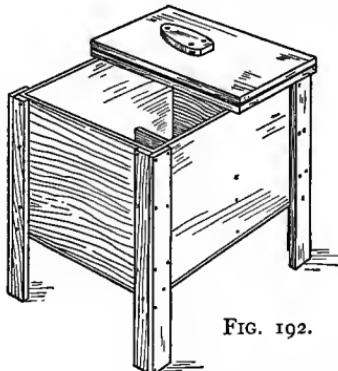

FIG. 192.
**A Blacking-Case** (Fig. 192). Cut two strips for each leg, making one 3 inches wide and the other as much nar-
FIGS. 192 and 193.—A Blacking-Case.
Divide the inside of the box with a center partition (Fig. 192), so one half of the box may be used for cans of shoe-polish and bottles of dressing, and the other half for brushes and polishing rags.